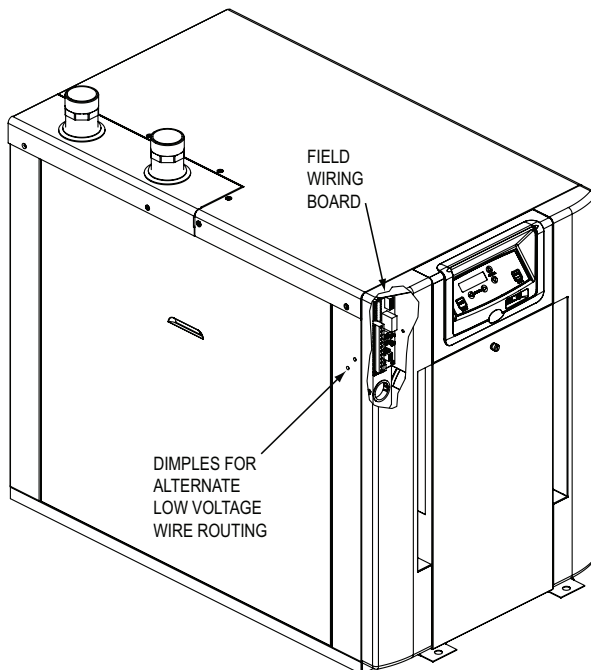

Fig. 15: Front Wiring Location
contacts, optional 0–10 VDC control wiring and cascade connections are wired into the front mounted field wiring board as shown in Fig. 15–19.
3. Create a hole to route the communication cables through where the dimples are in the side of the cabinet (see Fig. 15), or route the wires to the rear junction box and out of the cabinet.